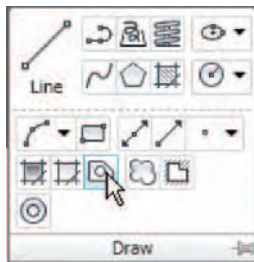

Fig. 12.9 Selecting the **Region** tool from the **Home/Draw** panel
2. Click the **Region** tool from the **Home/Draw** panel (Fig. 12.9), or *enter* **reg** at the command line.